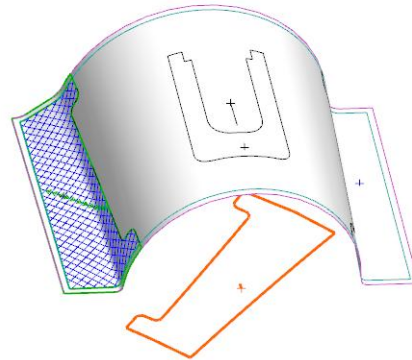

Figure 3–54
- The Flat Pattern geometry is created on the default XY plane, as shown in Figure 3–54. Note that it is flipped in the opposite direction of the ply boundary direction.